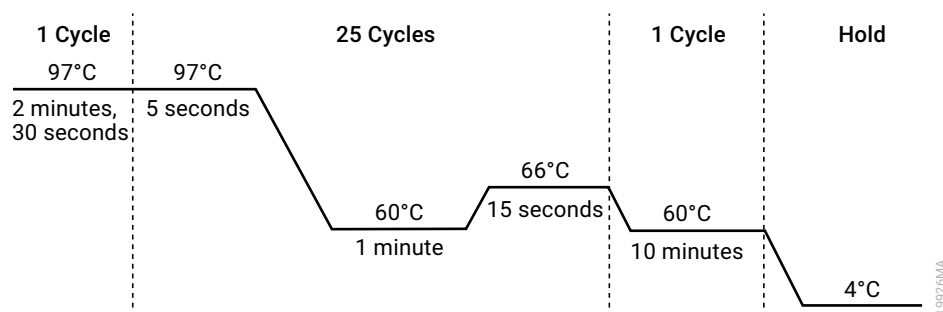

Figure 7. Thermal cycling protocol for the ProFlex® PCR System.
2. Select and run the protocol provided below and in Figure 7. The total cycling time is approximately 65 minutes.